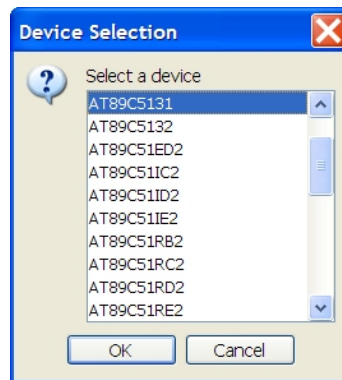

Fig. 3. The window of selecting the type of controllers
3. Open the window of selecting the type of controllers (Fig. 3)